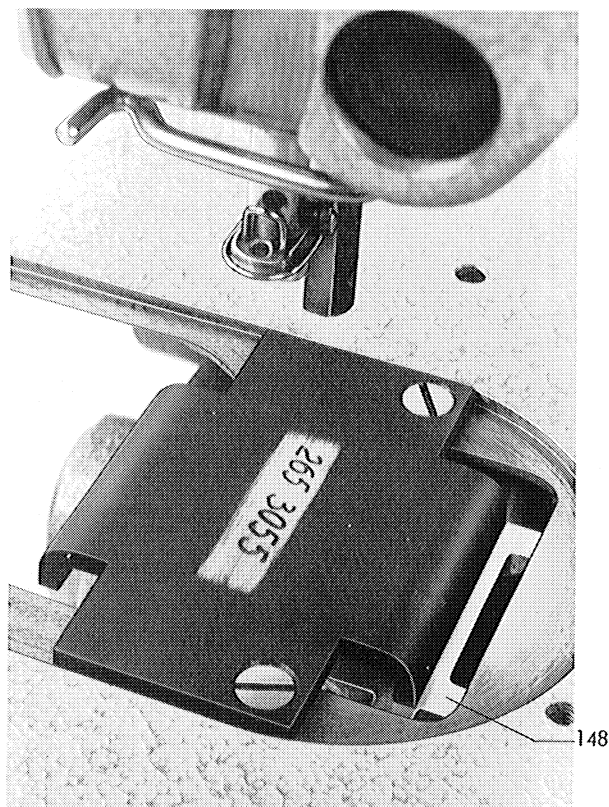

Fig. 25
2. Loosen thumb screw 145 and lower slightly feed dog carrier 148 (fig. 25), so that the gauge can be easily screwed on.
3. Fasten the gauge (ref. no. 2653055) for the feed dog carrier with the throat plate fastening screws as shown in fig. 25.
4. Set feed dog carrier 148 so that the feed dog bearing surface is in contact with the gauge (see also fig. 25).